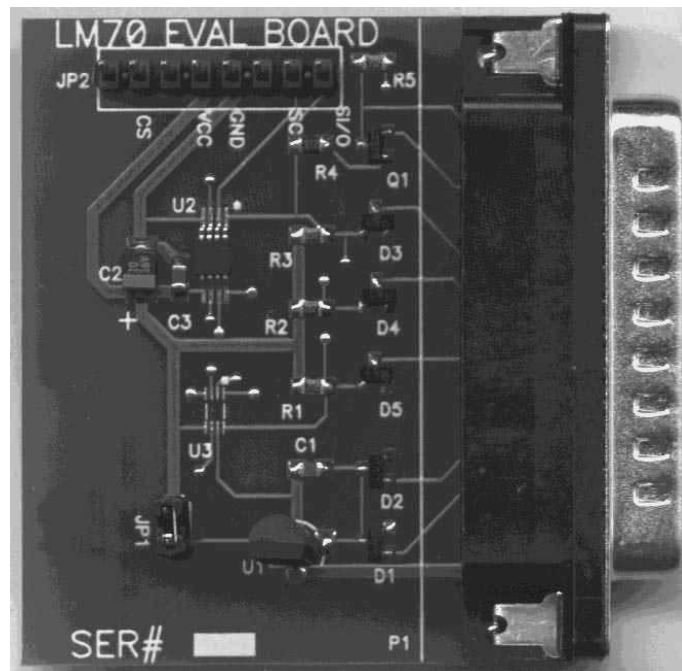
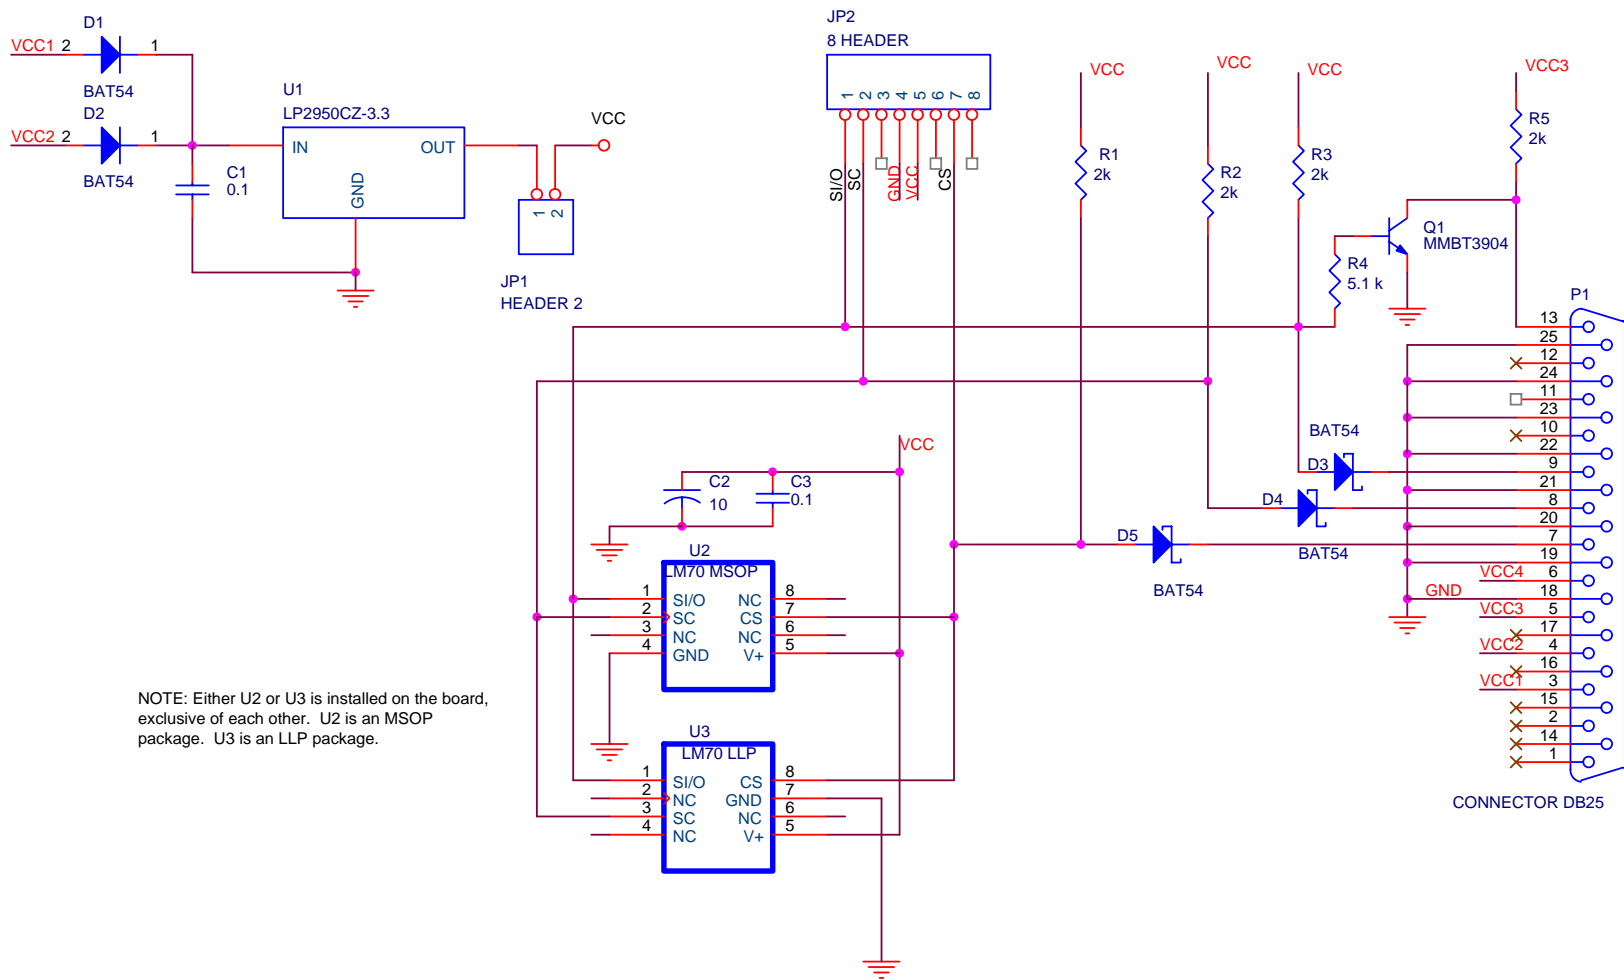

Figure 1: LM70 Evaluation Board
Figure 2: LM70 Evaluation Board, Revision 1.0
- 2.6 Make sure jumper JP1 is installed on the LM70 Evaluation Board as shown in Figure 1.
The LM70 Evaluation Board schematic is at the end of this manual, in Figure 2. The software was pre-configured to run with the JP1 jumper installed as shown in Figure 1. The descriptions of each of the jumpers and pins are listed in Tables 1 and 2.